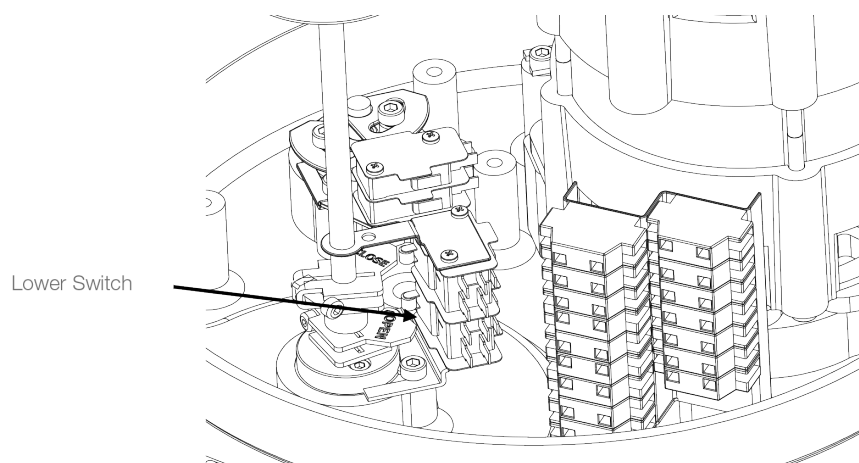

Figure 2: Open Cam Setting
- Rotate the OPEN cam towards CCW limit switch level until the switch 'clicks' (see Figure 2)